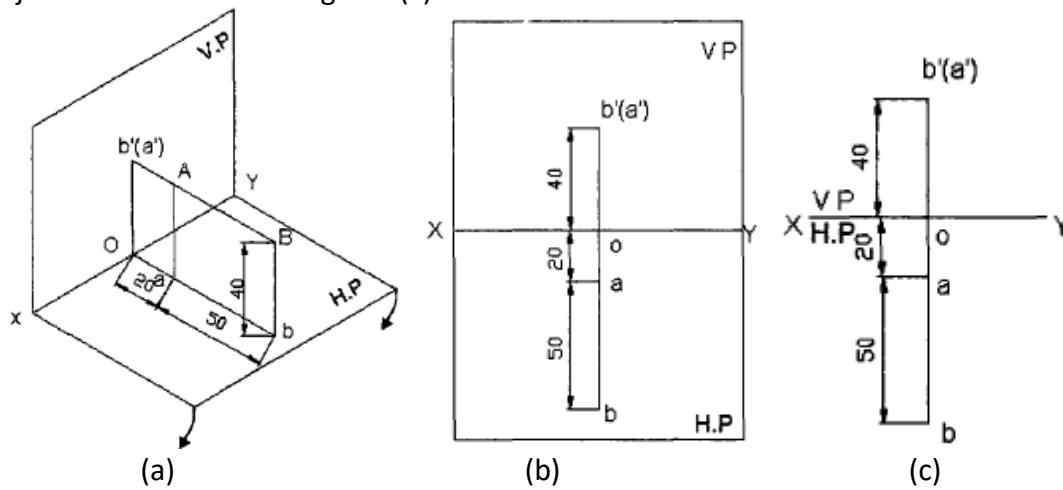

Fig. 2.8 Line perpendicular to V.P. and parallel to H.P.
6. The final projections are shown in Fig. 2.8 (c).